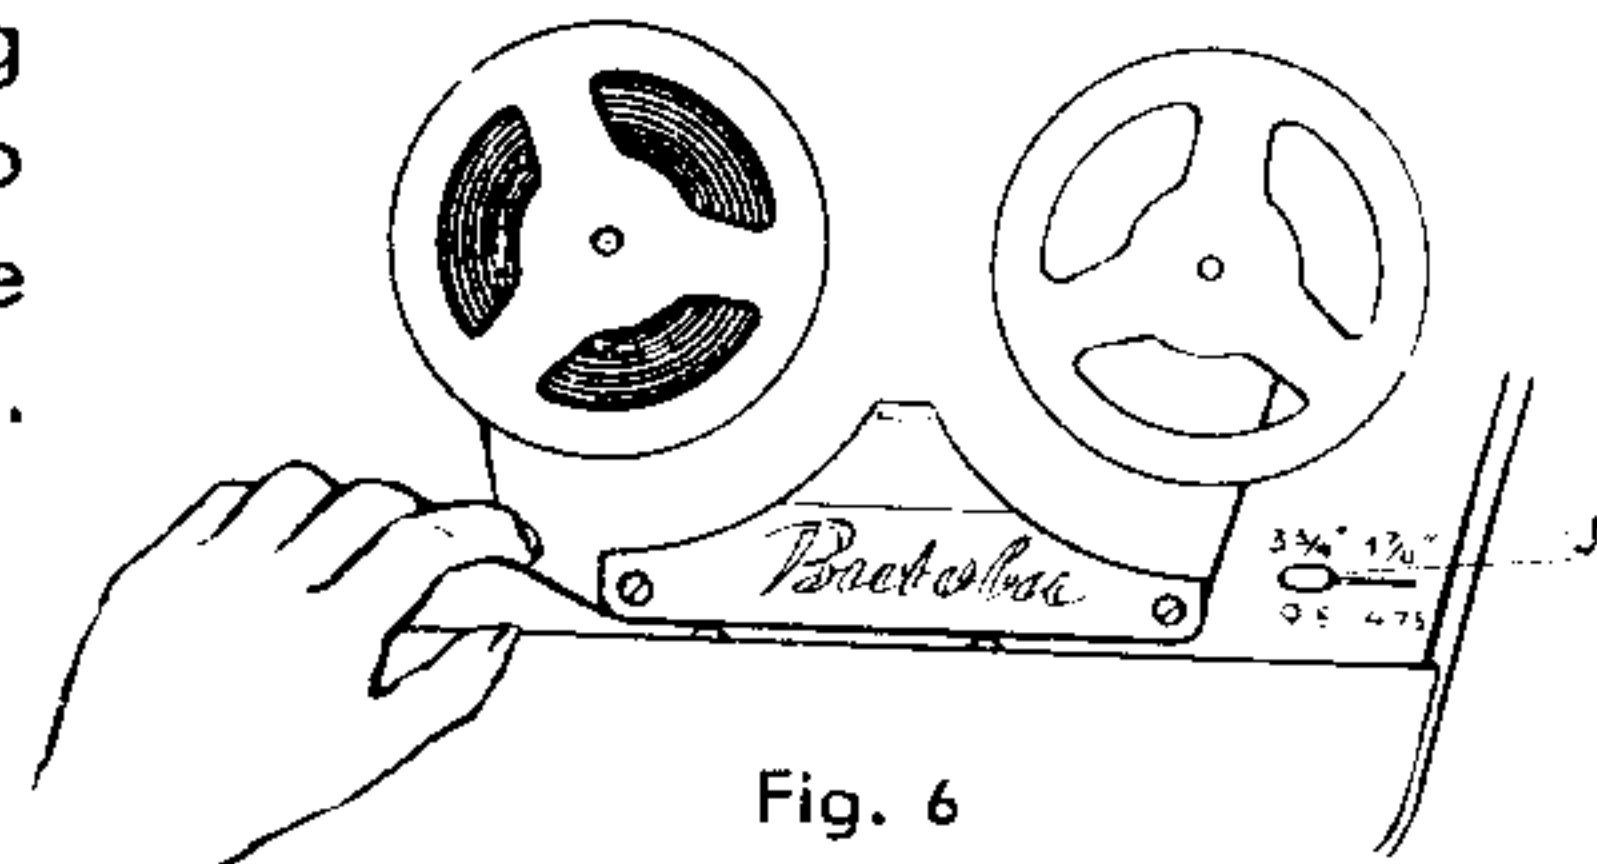

Fig. 6
- Slip the tape into the guide slot and wind it into the empty reel for a few turns. The brakes should be released by pressing the Playback key "☞". Make sure that the tape lies correctly in the recesses of the two guide pegs. (See fig. 6)